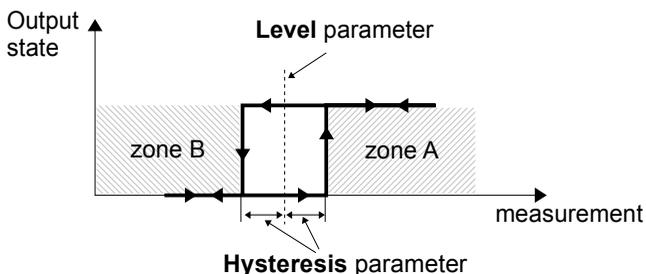
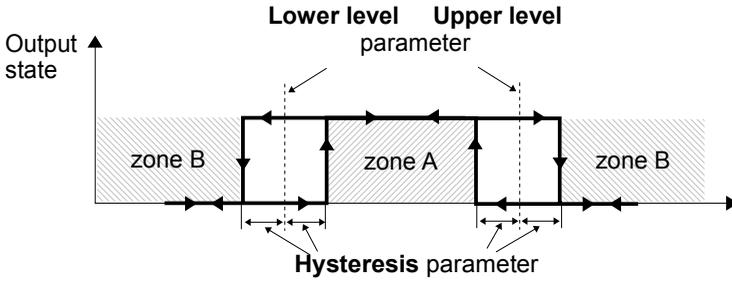
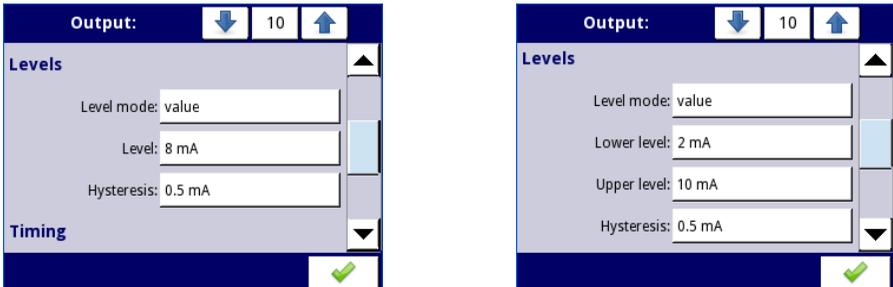

Fig. 7.79. One threshold control of the virtual relays
Fig. 7.80. Two threshold control of the virtual relays
Fig. 7.81. Levels settings for **Mode: above and below level** (left) and **inside range and outside range** (right)
- **Mode** - this parameter allows the user to select the method of operation of the output, the **Mode** parameter has the following options (see **Fig. 7.79** and **Fig. 7.80**):
### Levels parameter block (see Fig. 7.79, Fig. 7.80 and Fig. 7.81)
- **Hysteresis** – by defining this parameter the user can move the level for changes in the output state (see Fig. 7.79 and Fig. 7.80),